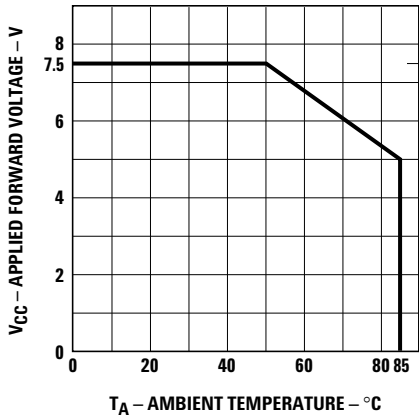

Figure 3. Maximum allowed applied forward voltage vs. ambient temperature $R\theta_{JA} = 175^{\circ}\text{C/W}$. 5 volt devices.
2. Derate from $T_A = 50^\circ\text{C}$ at 0.071 V/°C, see Figure 3.